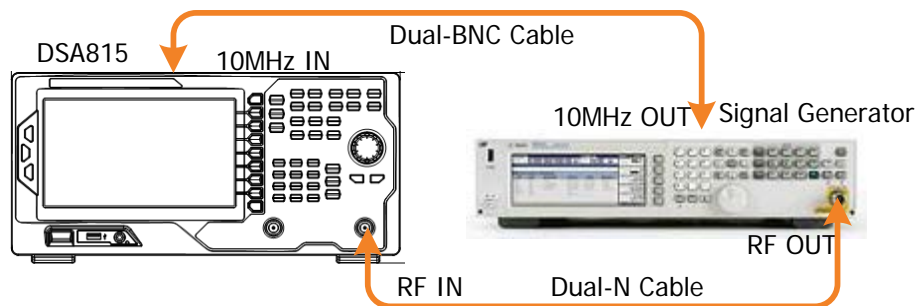

Figure 2-2 Single-sideband Phase Noise Test Connection Diagram
2. Connect the output terminal of the signal generator with the RF input terminal of the spectrum analyzer, as shown in Figure 2-2.